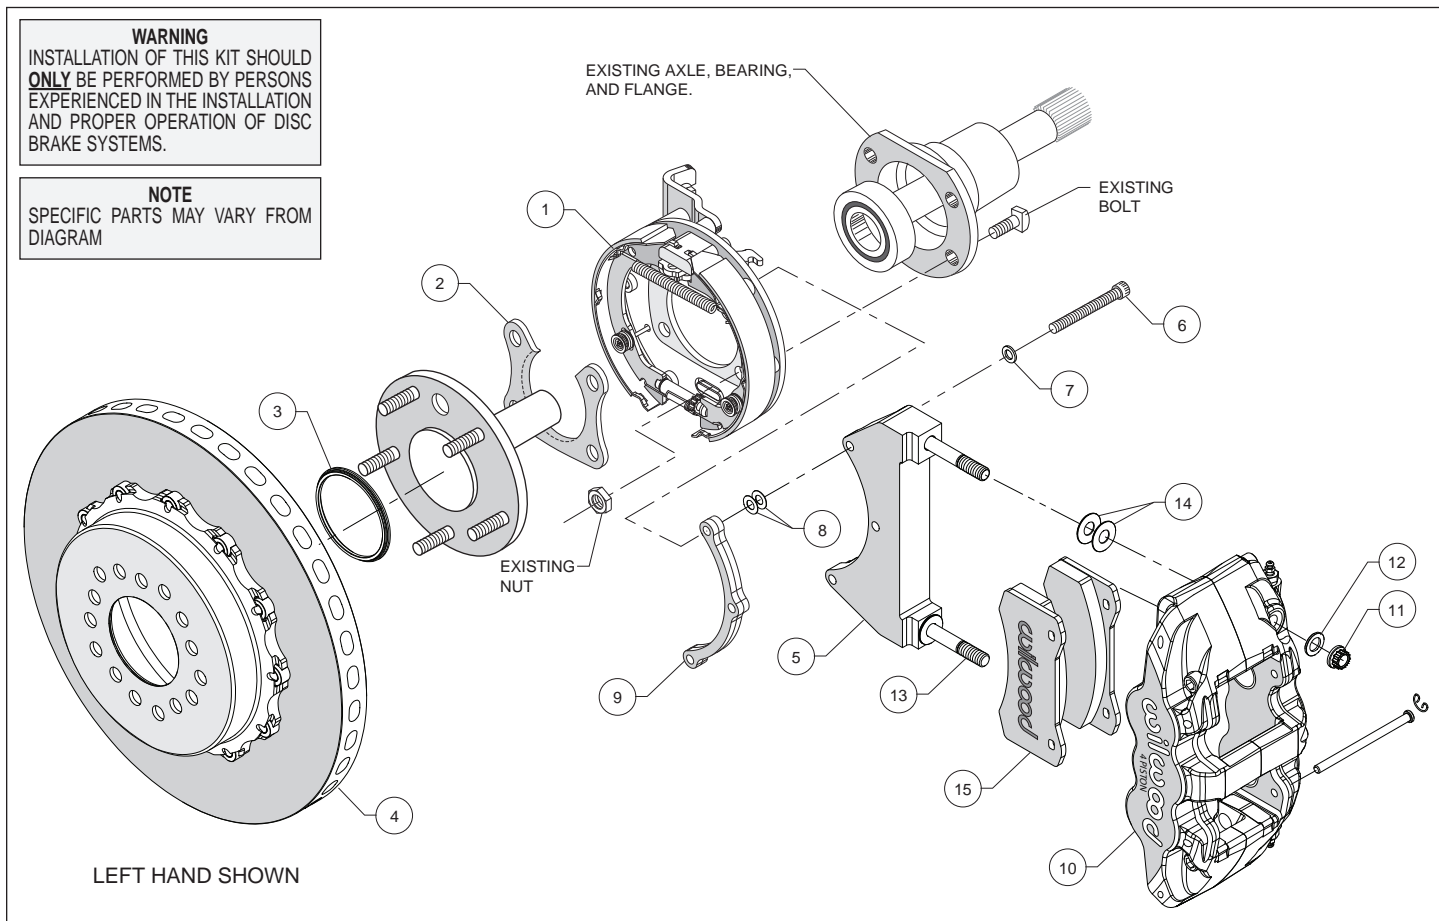

Figure 1. Typical Installation Configuration
Assembly Instructions (numbers in parenthesis refer to the parts list, and Figure 1 on the preceding pages): **CAUTION:** All mounting bolts must fully engage threaded holes.
- Orient the bracket assembly (1) as shown in Figure 1 and Photo 1 and slide it onto the axle. Insert the axle and bracket into the axle housing. Ensure that the bracket assembly backing plate fits flush against the axle housing flange.
- Install the bearing retainer (2) with the opening pointing upward and the lip facing inward (toward the bearing), as shown in Figures 1 and 4, and Photo 2. Secure retainer and bracket assembly to the axle housing flange using the Original Equipment Manufacturer (OEM) bolts and nuts, Figure 1. Apply red *Loctite*® 271 to the OEM bolt threads and torque to OEM specifications.
- Slide the rotor registration adapter (3) onto the axle flange with the smaller O.D. facing toward the rotor/hat, Photo 3.
- Align the correct hole pattern in the rotor/hat with the stud pattern on the axle flange and slide into place, Figure 1 and Photo 4. **NOTE:** The rotor/hat must fit flush against the axle flange or excessive rotor run out may result. Install three lug nuts (finger tight) to keep the rotor/hat assembly in place while continuing with the installation. **NOTE:** Some OEM and after market axles come with stud sizes larger than 0.50" diameter. Verify stud size and have a qualified machine shop drill the bolt circle of the hat/rotor to the correct stud size, if necessary.
- NOTE:** Please reference the caution statement at the beginning of the assembly instructions. The caliper mounting bracket (5) should be installed first with clean, dry threads on the mounting bolts. Install the caliper bracket to the bracket kit assembly (1) using bolts (6), washers (7), and spacer (9), as shown in Figure 1. Initially place two .015" thick shims (8) on each bolt between spacer and the caliper bracket. Temporarily tighten the mounting bolts. **NOTE:** The bracket must tighten squarely against the back side of the bracket kit assembly. Inspect for interference from casting irregularities, machining ridges, burrs, etc. Later, after the caliper alignment has been checked, the mount bolts will be secured using red *Loctite*® 271.
- Lubricate the caliper mounting studs (13) with lightweight oil. Initially place two .030" thick shims (14) on each stud between the caliper and the bracket, as shown in Figure 1 and Photo 5. Mount the caliper (10) onto the bracket (5) using lock nuts (11) and washers (12), Figure 1. Temporarily tighten the lock nuts. View the rotor through the top opening of the caliper. The rotor should be centered in the caliper, Photo 6. If not, adjust by adding or subtracting shims (8) between the bracket and the spacer. Always use the same amount of shims on each of the three mounting bolts. **NOTE:** The ends of the mounting bolts must fully engage, but not exceed, the inside face of the clinch nuts in the backing plate. If needed, add or subtract spare shims (8) and/or washers (7) under the bracket bolt heads to achieve proper clinch nut engagement. Once the caliper alignment and clinch nut engagement are correct, remove the bracket mounting bolts one at a time, apply red *Loctite*® 271 to the threads, and torque to 180 in-lbs.
- Remove the two pad retaining pins from the caliper by carefully popping out the pin retaining clips and sliding out the pins. Insert the brake pads (15) into the caliper from the bottom, Figure 1